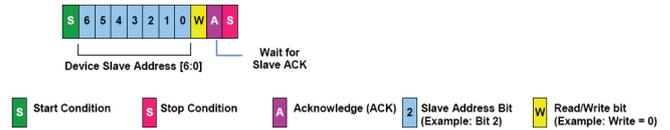

Figure 4.4: I²C Measurement request
The I²C MR is used to wake up the device in Sleep Mode and start a complete measurement cycle starting with a temperature measurement, followed by a humidity measurement, and then the results can be fetched by master with I²C. As shown in Figure 4.4, the communication contains only the slave address and the WRITE bit (0) sent by the master. After the HumiChip® responds with the slave ACK, the master creates a stop condition.